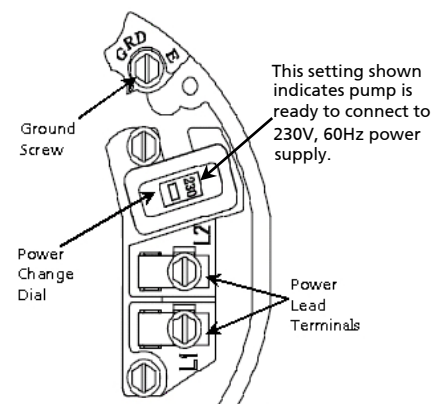

Figure 13 – Voltage Set to 230 Volts, Dial Type
Your motor terminal board (located under the motor end cover) should look like the one in Figure 13.
2. Select the UP knob position for 115V or DOWN position for 230V, until 115 or 230 shown in the dial window (see Figure 13).